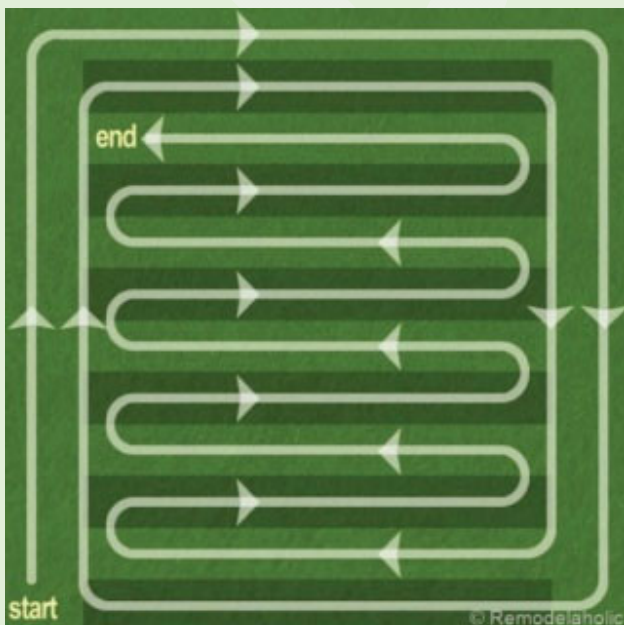

Figure 1: Back & Forth Pattern
- Step 2: Mow in a back-and-forth pattern like the one in figure 1 below.